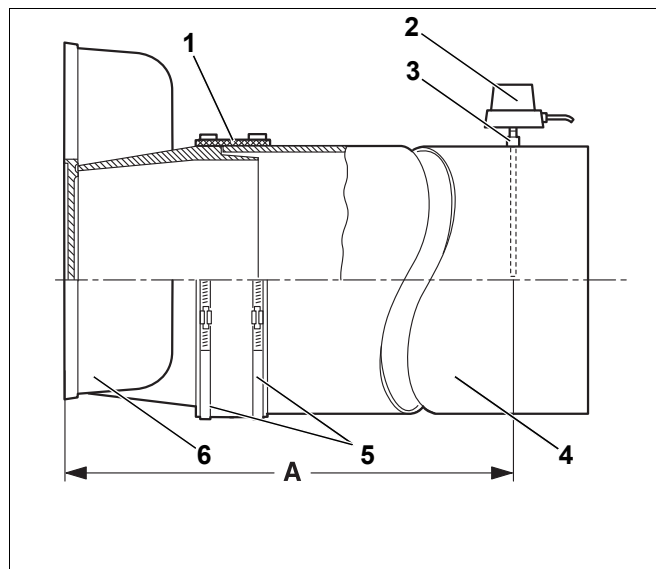

Fig. 59 Install the flue pipe
We recommend you use a flue pipe sealing collar (Fig. 59, [1]).
- Insert the flue pipe (Fig. 59, [4]) until it contacts the flue gas collector outlet (Fig. 59, [6]).
- Place the flue pipe sealing collar (Fig. 59, [1]) on the top so that it overlaps the flue pipe (Fig. 59, [4]) and the flue gas collector outlet (Fig. 59, [6]).
- Place the jubilee hose clips (Fig. 59, [5]) over the flue pipe sealing collar (Fig. 59, [1]). One of the hose clips (Fig. 59, [5]) must clamp on the flue gas collector outlet (Fig. 59, [6]) and the other onto the flue pipe (Fig. 59, [4]).
- Tighten the jubilee hose clips (Fig. 59, [5]). The flue pipe sealing collar (Fig. 59, [1]) must fit smoothly and closely.
- Weld the coupler (Fig. 59, [3]) at a distance of 2 x flue pipe diameter (A) from the flue gas collector (Fig. 59, [6]) into the flue pipe (Fig. 59, [4]).
- Install the flue gas temperature sensor (Fig. 59, [2]) in accordance with disconnect installation instructions.